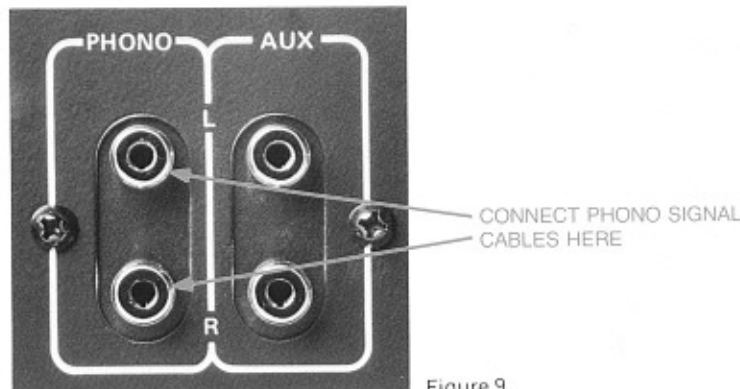

Figure 9
4. The other cable is the phono signal cable, terminating in white and red "phono" plugs. Insert these firmly into the PHONO JACKS in the rear of the receiver. (The white plug is for the left channel, and the red plug is for the right channel.) Note: Keep the AC power cords and the phono signal cables separated for optimum performance and minimum hum. (See Figure 9).